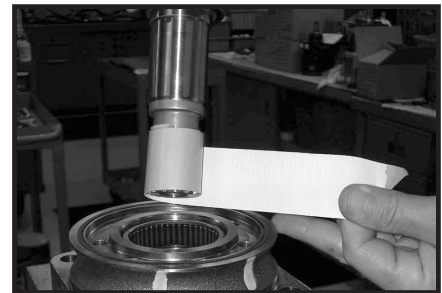

Figure 37
- Apply masking tape to shaft** 7. Apply masking tape around splines or keyway on shaft (12) to prevent damage to seal. SEE FIGURE 37.